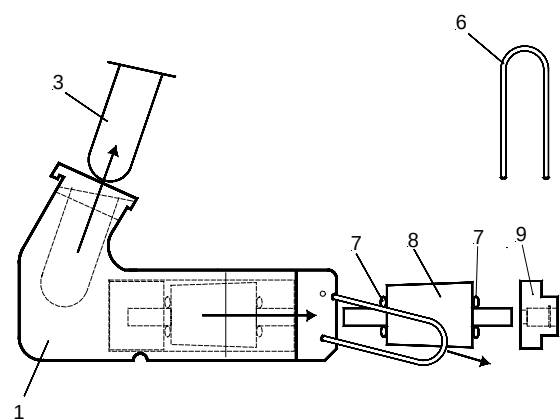

Fig. 23c
When the suction power and suction window are set in a correct way, the section to be disposed of gets via the suction slot in the knife carrier into the filter unit, consisting of a coarse filter for collecting section waste and a micro filter for filtering the air (fig. 23c).
- Pull off the locking fork (fig. 23c.6).
- Remove seal (fig. 23c.9) and remove the micro filter (fig. 23c.8).
- Insert the seal (fig. 23c.9) again and fix it via the locking fork (fig. 23c.6).